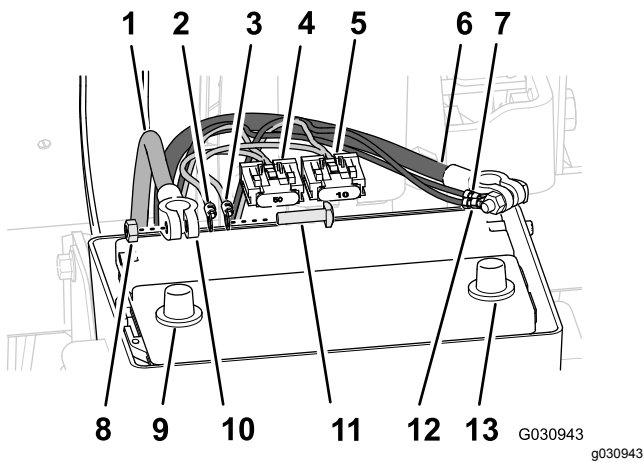

Figure 178
1. Route the positive terminal (red wire), negative terminal (black wire), and 50 A fuse block of the rear wire harness up between the battery box and the chassis of the machine (Figure 178).
- Remove the T-bolts and hex nuts from the terminals of the positive and negative battery cables (Figure 178).
- Assemble a T-bolt through the positive terminal (red wire) of the rear wire harness, the positive terminal of the navigation electrical harness, and terminal of the positive battery cable (Figure 178).
- Loosely secure the terminals and the T-bolt with a hex nut (Figure 178).
- Assemble a T-bolt through the negative terminal (black wire) of the rear wire harness, the negative terminal of the navigation electrical harness, and terminal of the negative battery cable (Figure 178).